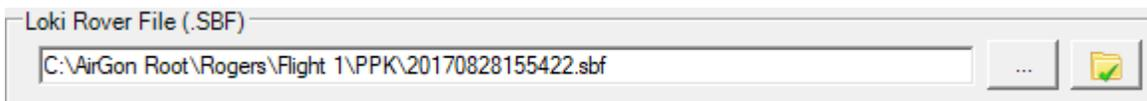

Figure 12 - Select Rover (Loki) File
- Under the field *Loki Rover File* (Figure 12), navigate to and select the sbf file on the Loki device. If you know which sbf file goes with the flight you are importing, you can browse to the file location and select the file. If you have multiple sbf files from different flights, use the Auto Find option. You will need to navigate to the containing folder, then ASPSuite picks the correct.sbf file for your images.